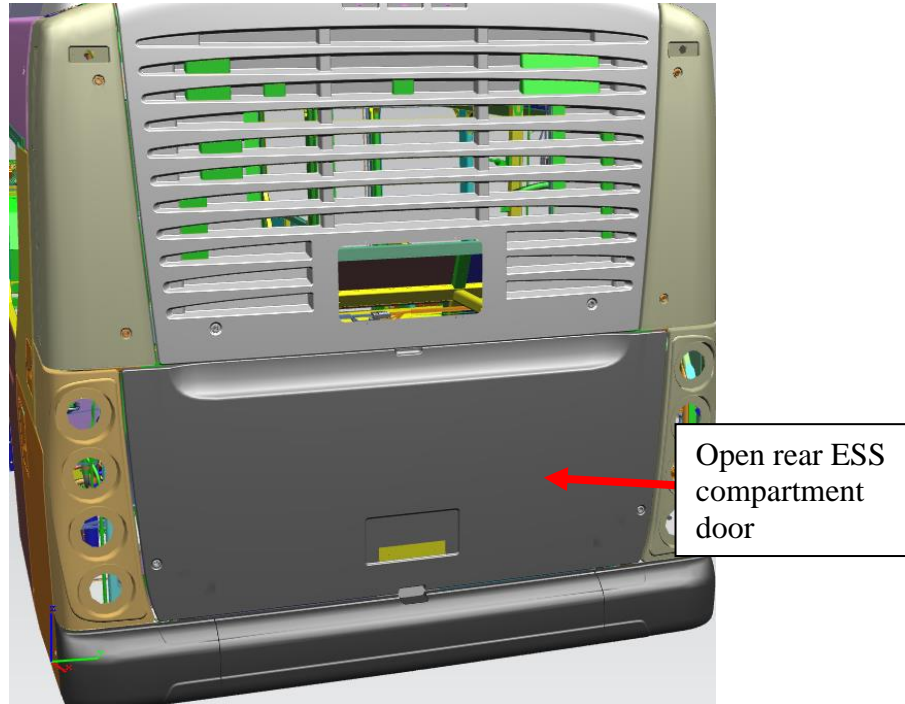

Figure 5: Rear of bus ESS compartment door
- 1.12 Before removing any MSD(s), confirm voltage is present between the positive in terminal on the BDU and negative in terminal on the BDU. See Figure 5.
2.1 Gain access to the rear ESS compartment. See figure 5.